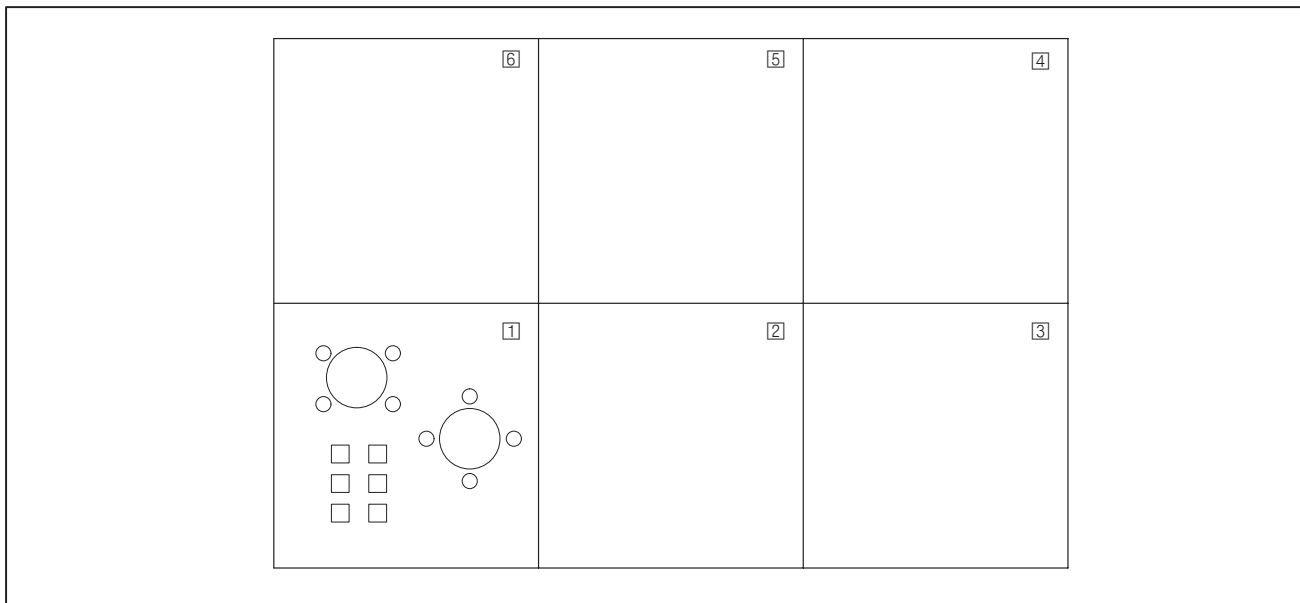

Fig. 14.5.1 (b)
After command of G98, specify machining commands on the lower left product part (① in Fig. 14.5.1 (a)) using the macro function (specify the machining commands between address word U and V).
Let the following four types of tools be used to punch products for one sheet, as shown in Fig. 14.5.1 (b).